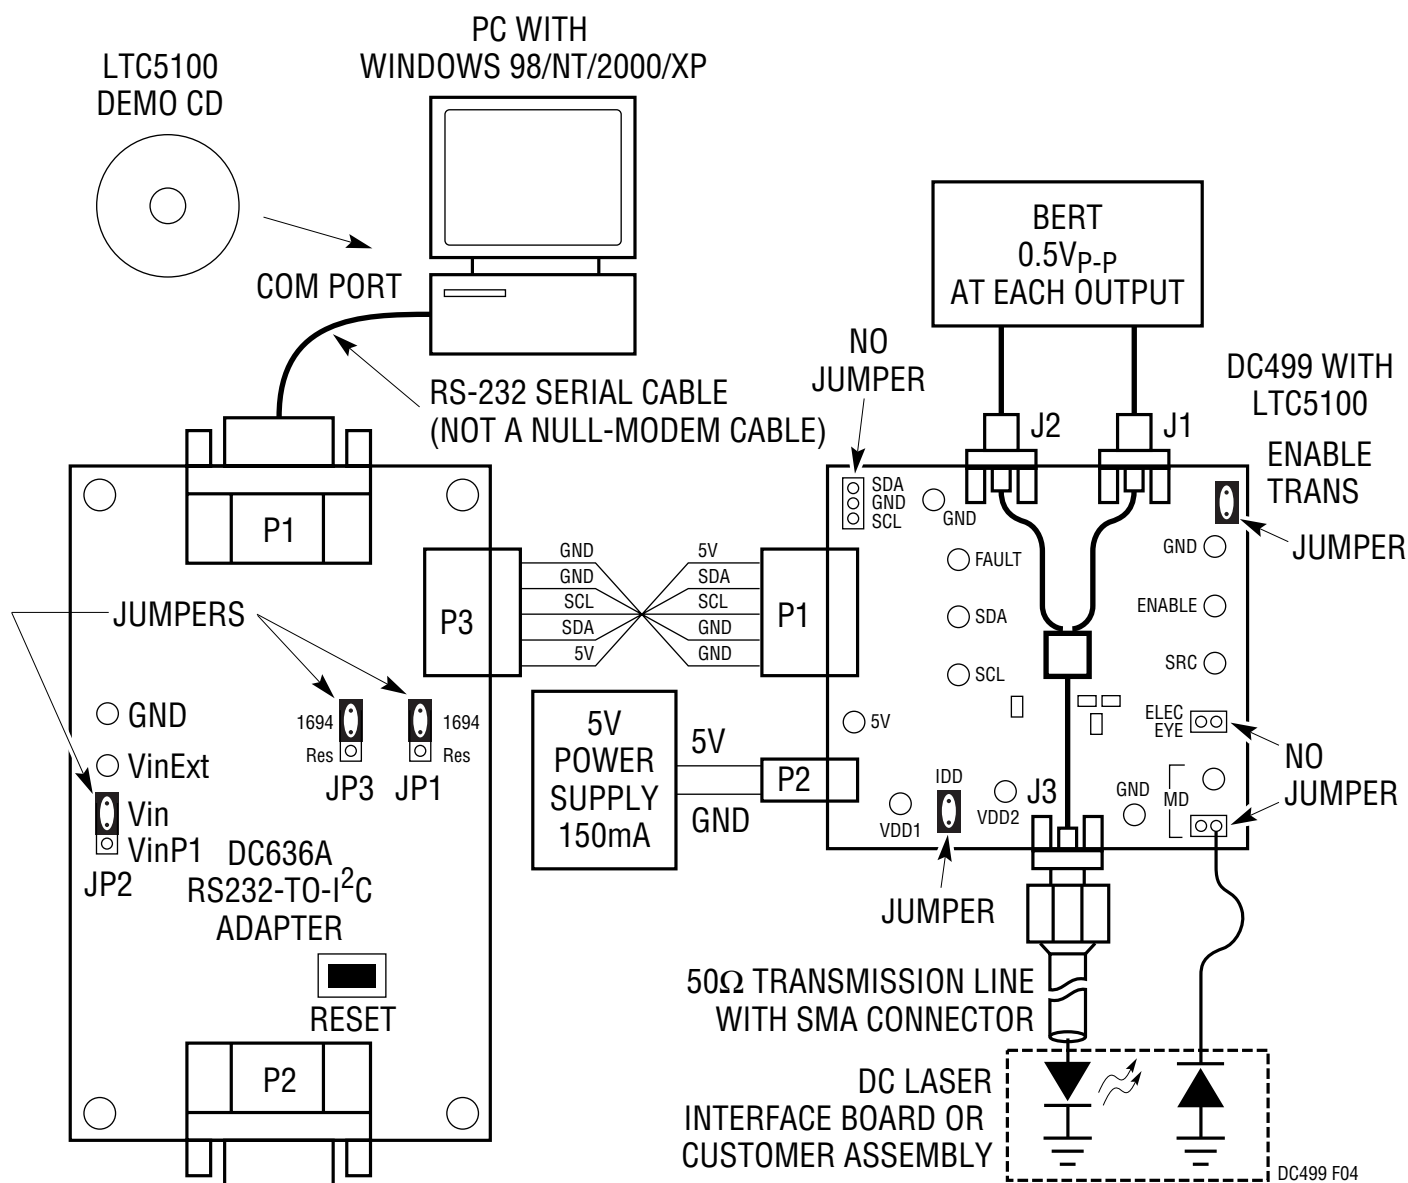
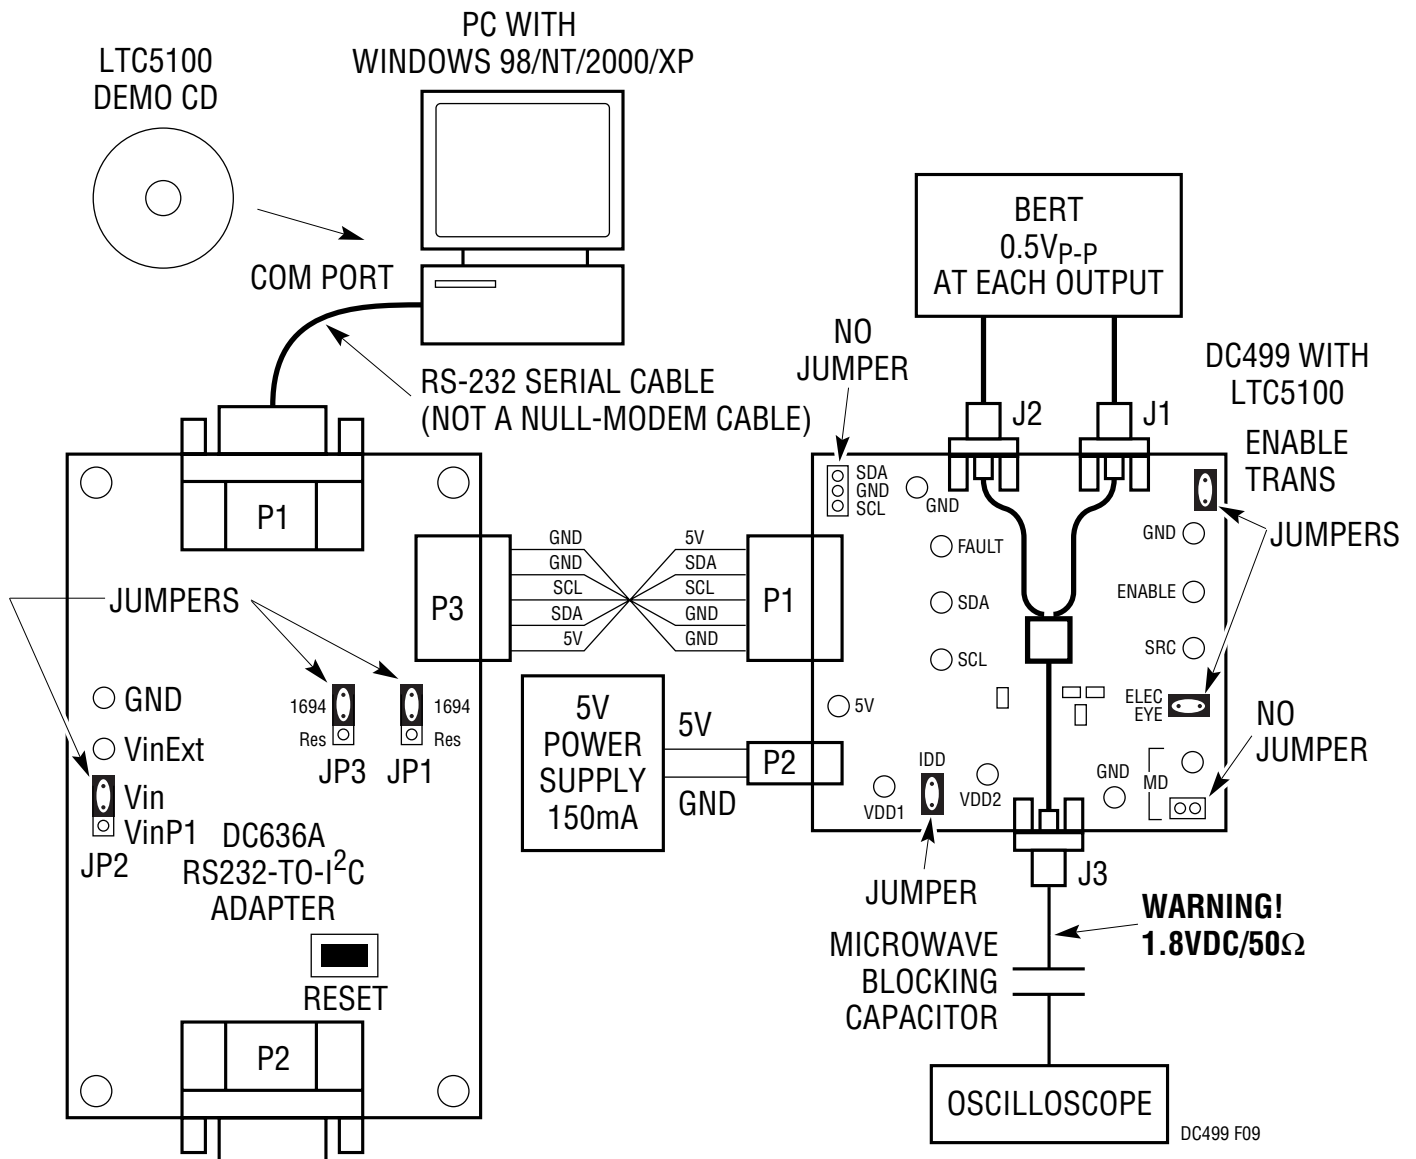

Figure 4. Setup for Observing an Optical Eye Diagram with a Laser
Figure 9. Setup for Measuring an Electrical Eye Diagram
Figure 4 shows how to connect the demo hardware to your computer, a power supply, and a laser diode to observe and measure optical eye diagrams. Follow these steps:
5. Attach a laser diode as shown in Figure 4. The LTC5100 has a precision, low reflection coefficient 50 Ω output that can drive a laser over any length of quality 50 Ω line. The only limitation on length is high frequency line loss.
Figure 9 shows how to measure the electrical eye diagram. Follow these steps:
Jumper JP2 applies DC bias for observing the electrical eye diagram. Adding a microwave blocking capacitor as shown in Figure 9 allows observation of the electrical eye without debiasing the LTC5100's modulation output or overdriving the oscilloscope.
- Check the jumper positions on the DC636A translator board. See Figure 4 or Figure 9.